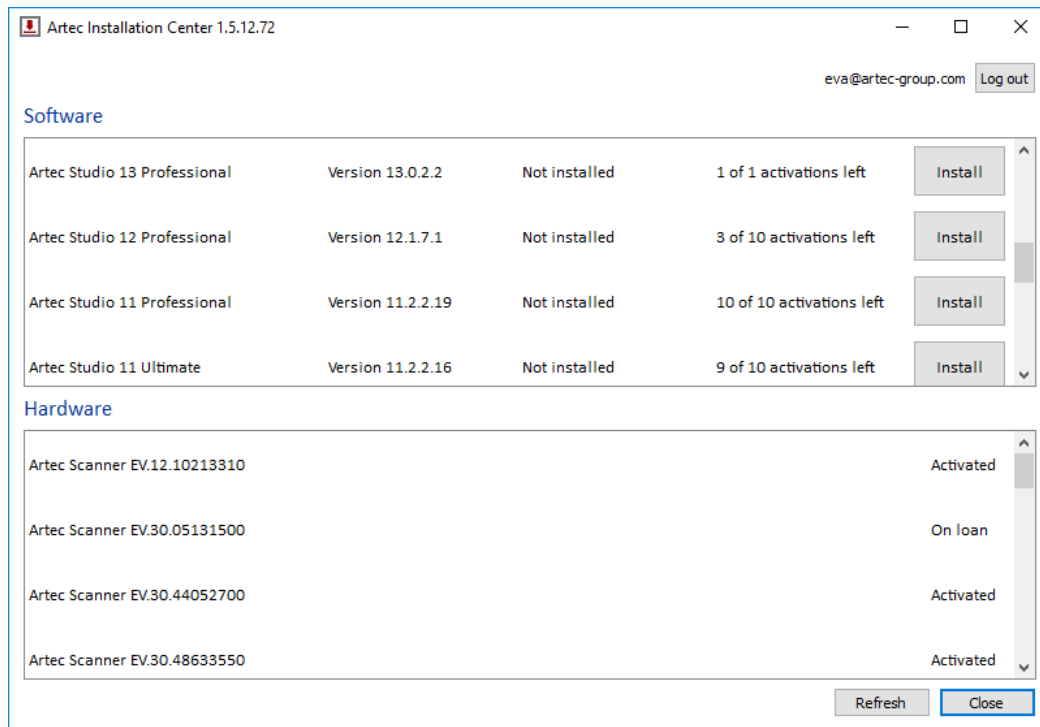

Figure 35: Artec Installation Center.
You may need to change *my.artec3d* account. Artec Installation Center displays the current user email in the top-right corner (Figure 35).
1. Run Artec Installation Center (go to the Start menu: click *Start* → *All Programs* → *Artec Group* → *Artec Installation Center*) to bring up the window shown in Figure 35.